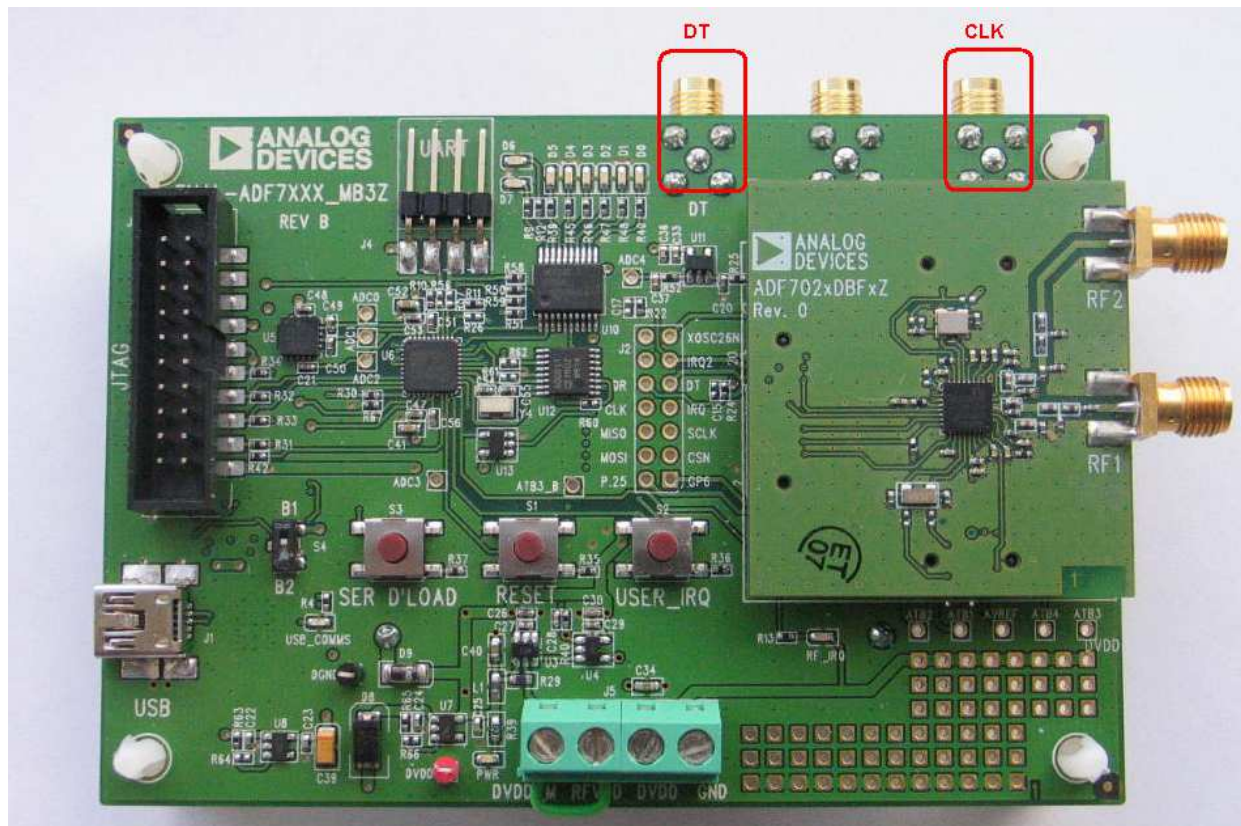

Figure 30
- While in ***PHY Tx*** with SPORT mode enabled, the transmitted data must be synchronized with the output clock seen on the **CLK** SMA connector on the mother board as shown in (Figure 30)
- The Tx data line, from the users Tx device, should be connected to the **DT** SMA connector as shown in (Figure 30).